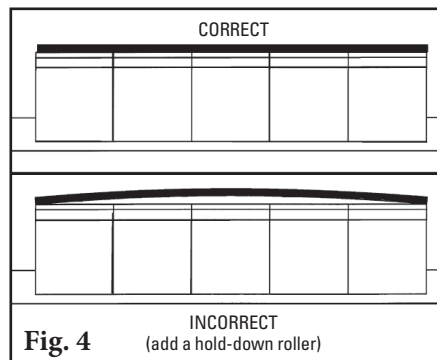

Fig. 4
- 4. Set the tip angle.** With angle gauge provided, rotate the tips to the preset angle and lock the pole in place by tightening the clamp block bolts equally (Fig. 4).
NOTE: Make sure there is NO tip-to-belt contact while making this alignment. If contact occurs, lower the pole by loosening clamp block lock bolts and raising top adjusting bolt jam nut (Fig. 4). When the tips are not touching the belt, repeat this step.
NOTE: If the belt is cupped, do not overtension the blades to contact the belt. A hold-down roller should be installed to flatten the belt (Fig. 4 & 4a). (Try the Stabilizing Return Roller or Stabilizing Roller Bracket Kit.)